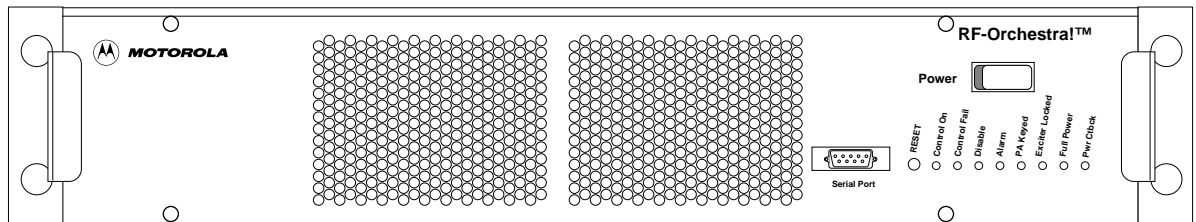

Figure 5-1: Orchestra Control Module (Front View)
1. Connect the service terminal to the RF-O! transmitter front panel serial port connector using an RS-232 null modem adapter cable with a DB9 connector (see Figure 5-1).